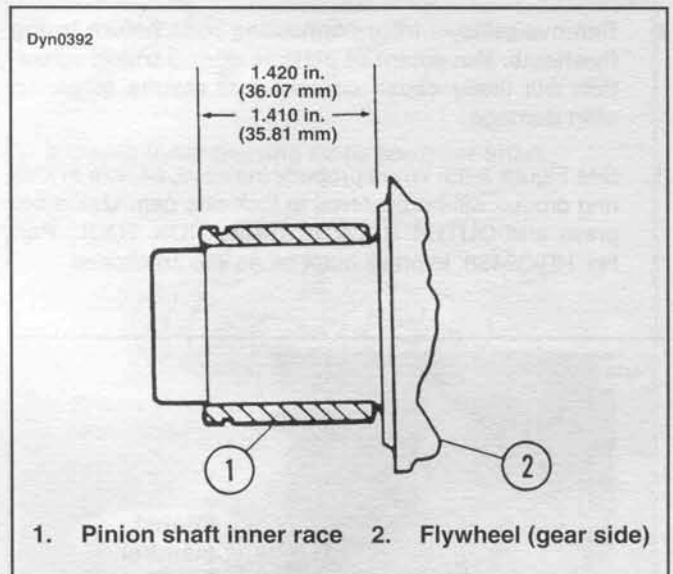
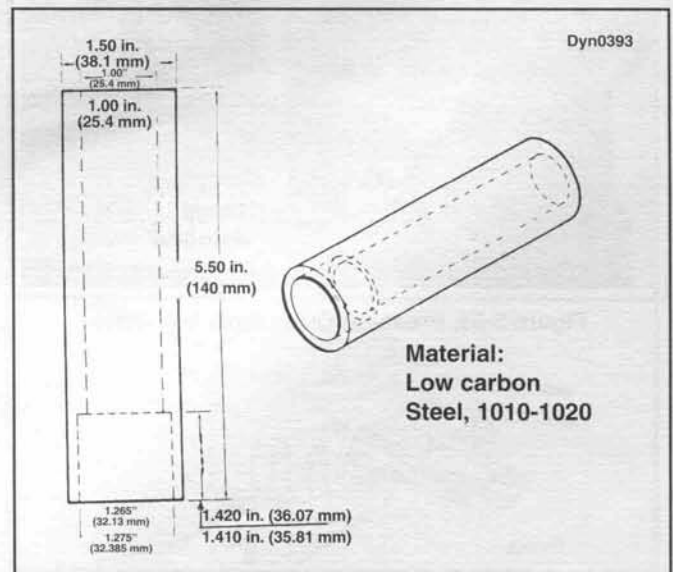

Figure 3-83. Inner Race Location
Figure 3-84. Inner Race Installation Tool
2. See Figure 3-83. Press new race (1) on pinion shaft to the dimension shown. Make sure retaining ring groove end of inner race is away from flywheel. Figure 3-84 shows a fabricated installation tool that will locate the inner race properly when tool is "bottomed" on flywheel.